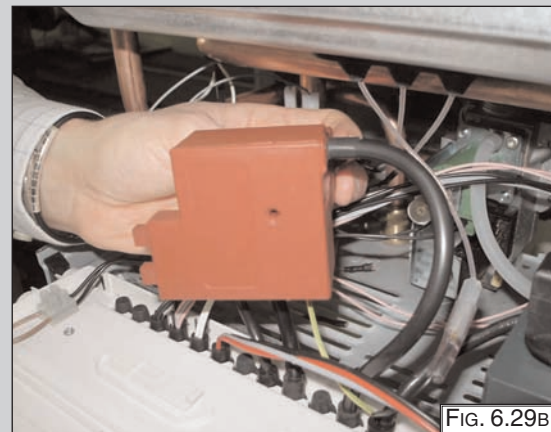

FIG. 6.29B
3. Remove the spark generator by pulling forward from the gas valve (FIG. 6.29B).